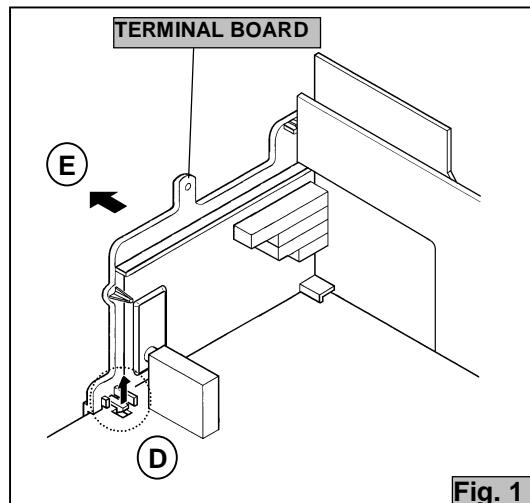

Fig. 1
- 2. As shown in Fig.1, after removing the claw marked **D** in the direction of arrow mark.
- 3. When you pull out the TERMINAL BOARD in the direction of arrow marked **E** as shown in Fig.1, it can be removed.
(5) Receive channel setting Refer to the OPERATING INSTRUCTIONS (USER'S GUIDE) and set the receive channels (Channels Preset) as described.
(6) User settings Check the user setting items according to Table 2. Where these do not agree, refer to the OPERATING INSTRUCTIONS (USER'S GUIDE) and set the items as described.
(7) SERVICE MENU setting Verify what to set in the SERVICE MENU, and set whatever is necessary (Fig.1).For setting, refer to the SERVICE ADJUSTMENT.